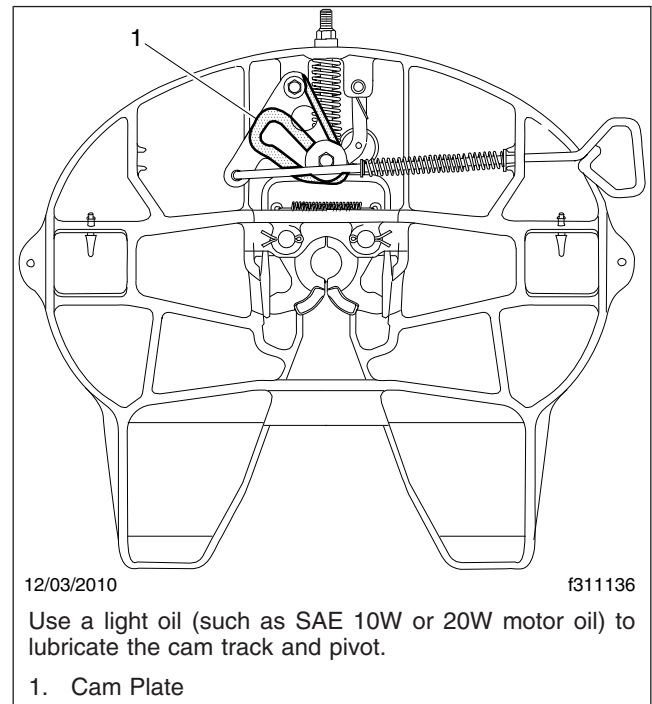

Fig. 8, Holland FW35 Fifth Wheel, Oil Lubrication
2. Using a light oil (such as SAE 10W or 20W motor oil), lubricate the cam track and pivot. See Fig. 8.